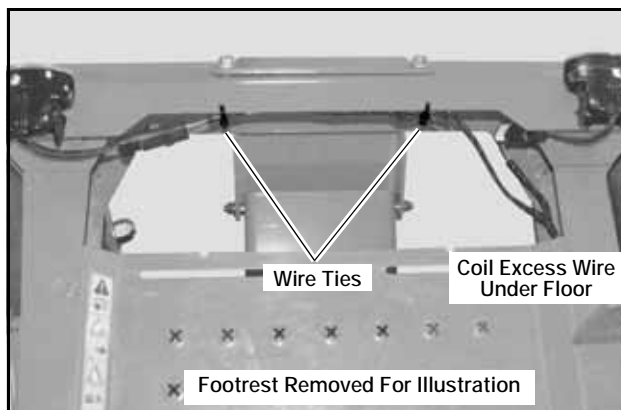

FIG. 15
17. Connect the wire harness to the lights. Secure the wire harness to the bracket with wire ties. (FIG. 15)
18. Coil and tie the extra length of wire harness together. (FIG. 15)